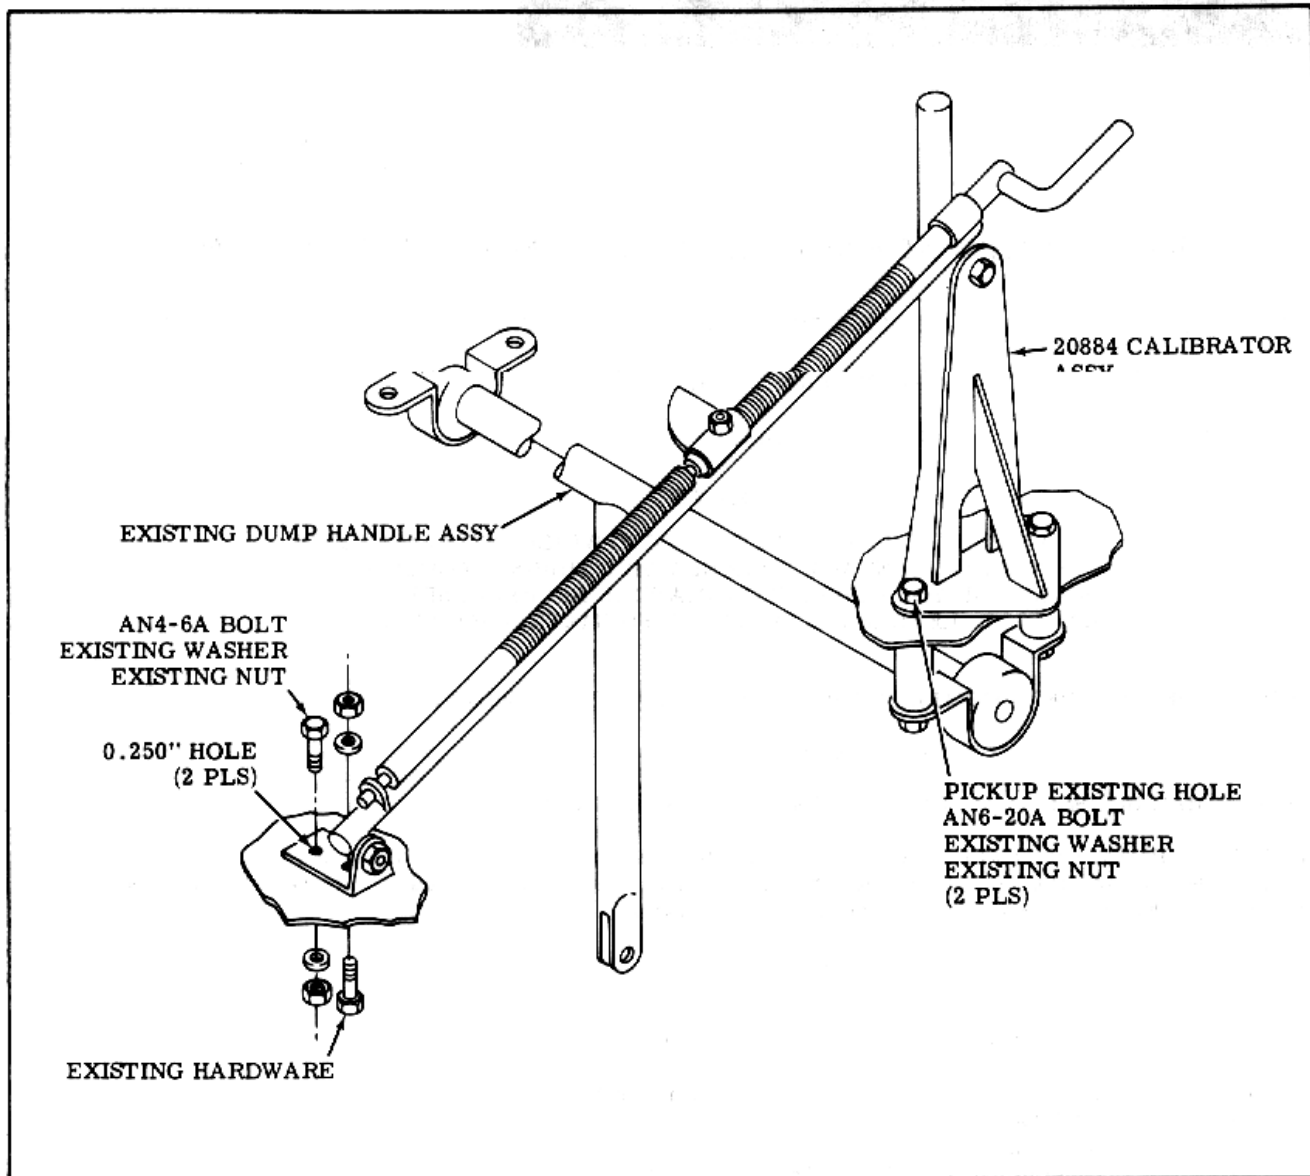

Figure 1.
3 Align and attach aft end of 20884 calibrator assembly with existing holes (see Figure 1).
4 Align forward end of calibrator assembly as required to fit travel of dump handle, drill two (2) 0.250-inch diameter holes through floor and attach forward end of calibrator assembly to fuselage floor (see figure 1).